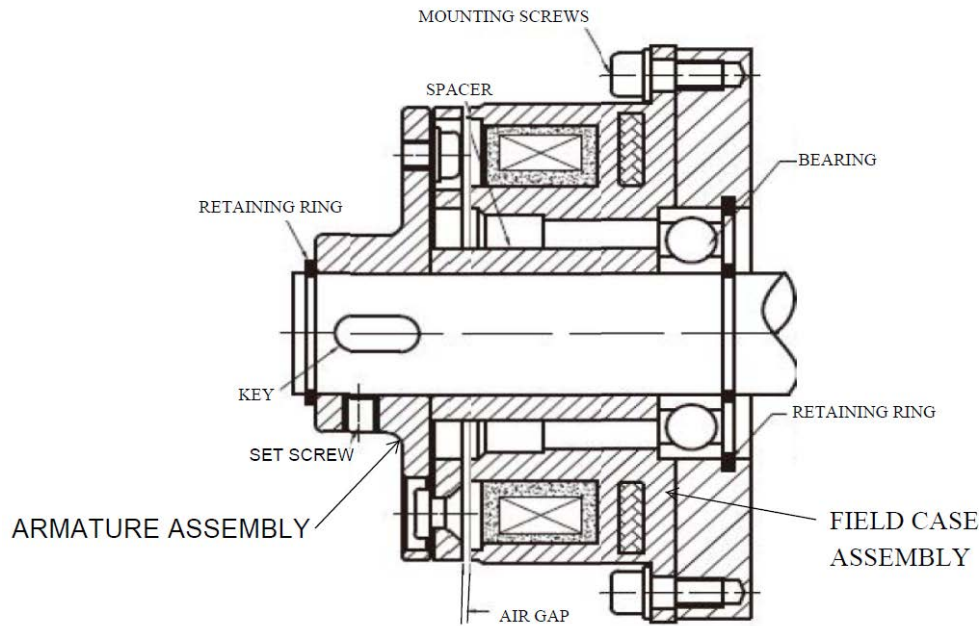

FIGURE 1
- See Figure 1 for configuration of suggested installation.